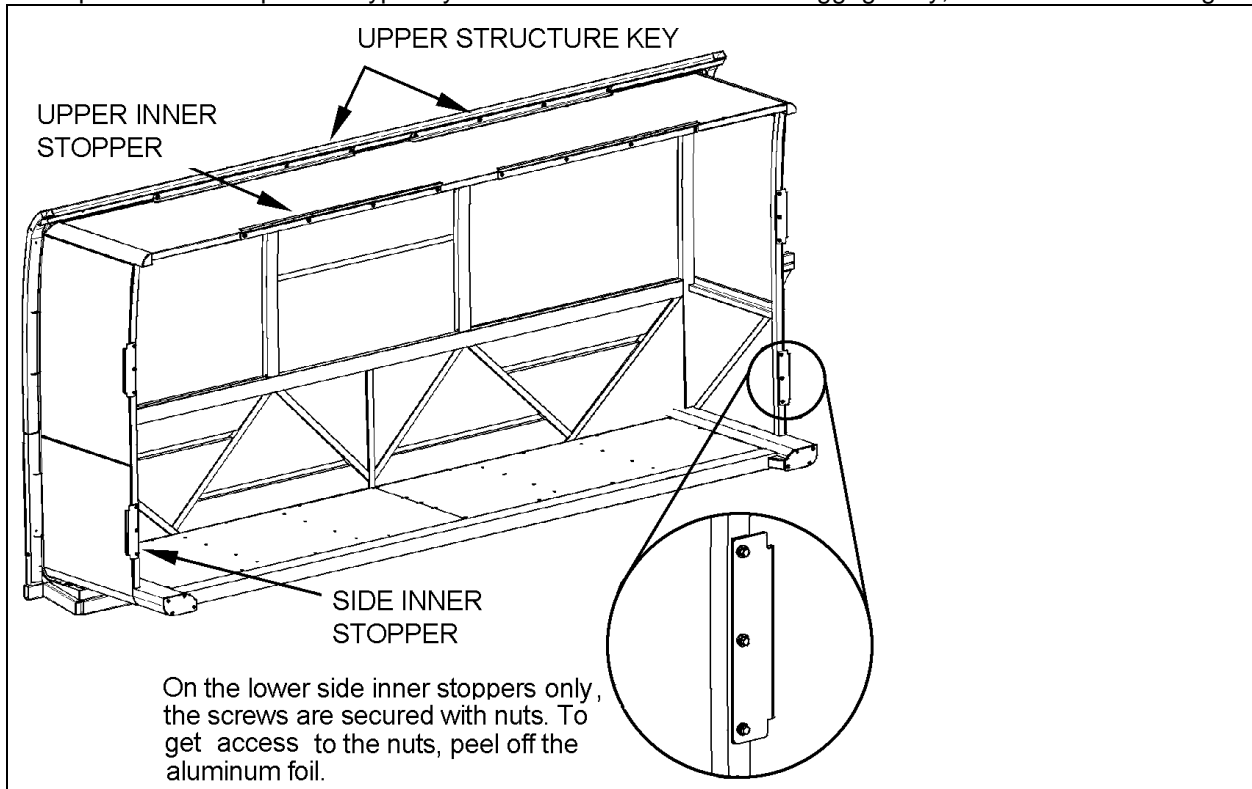
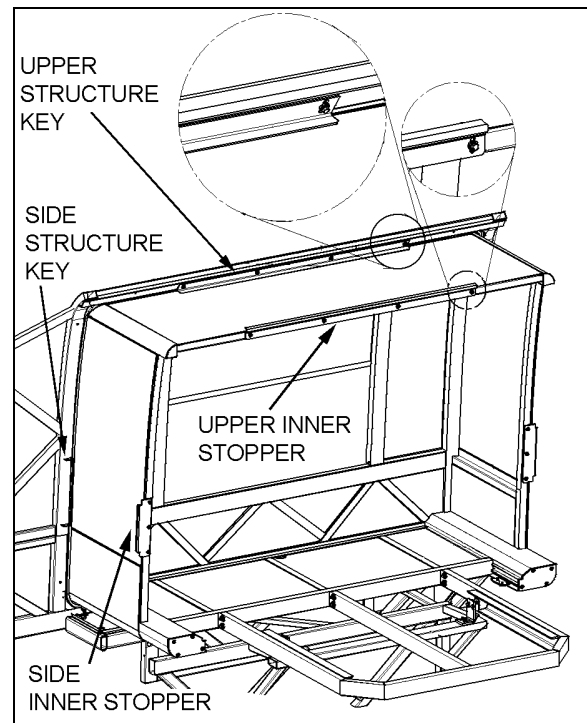

FIGURE 3: FRONT LEFT SLIDE-OUT
FIGURE 4: REAR SLIDE-OUT
The front left slide-out is equipped with six inner stoppers laid out in the following way: two stoppers on the top horizontal member of the slide-out, and two stoppers on each vertical upright, while the rear slide-out is equipped with only three stoppers (Figure 3 & Figure 4). The upper inner stoppers are used to provide a support to position perpendicularly the slide-out with the vehicle structure.
The side inner stoppers are used to block the extension of the slide-out. They act as ultimate physical limits but take note that when the "out limit" sensors are properly adjusted, the slide-out extension stops before the side inner stoppers reach the side structure keys (Figure 3 & Figure 4).
2. Adjust the upper structure key and the upper inner stoppers according to FIGURE 4 with the seal deflated. When inflating, the seal presses the roof structure upward and at that moment, the upper inner stopper comes into contact with the upper structure key